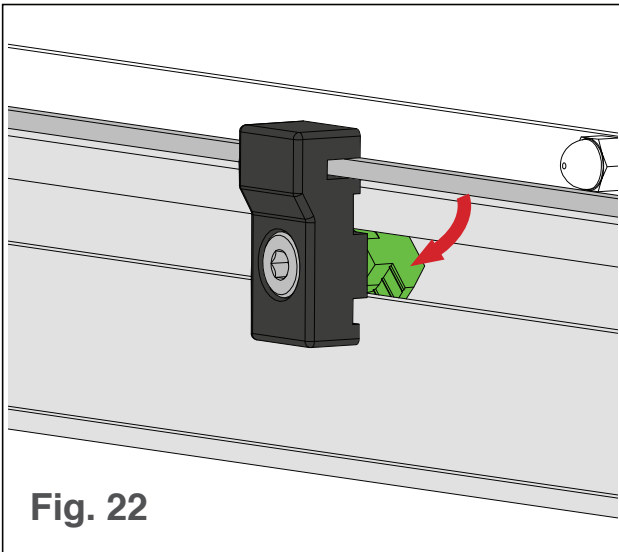

Fig. 22
- c. Rotate the T-bar 90° to secure the clip in the side slot (see Fig. 22).